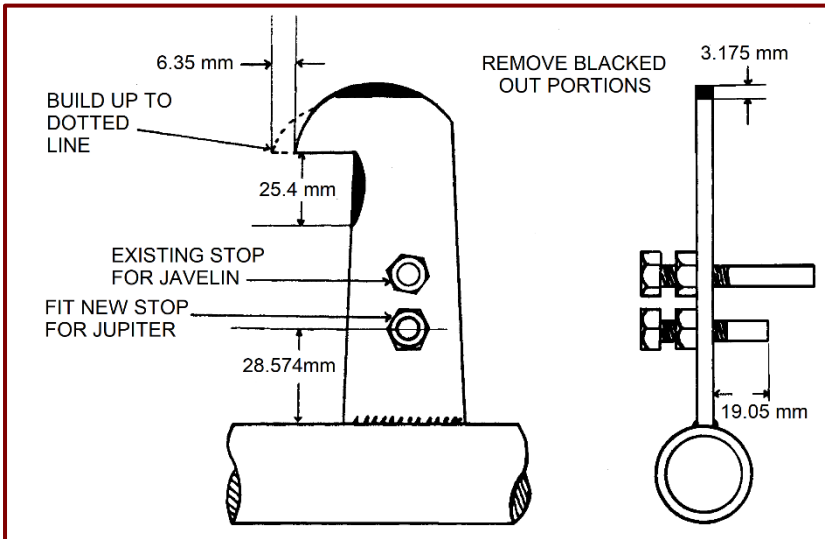

Figure 105. Frame Level Gauge.
3. Fit the frame level gauge (*Figure 105*, Page 104) and reset the torsion bar adjusters until a chassis height of 8 $\frac{1}{4}$ " (210 mm) is obtained immediately below the rear of the spring arm trunnion. *It should be noted that the light weight of the body does not give sufficient loading on the torsion bars and it is necessary that two persons be seated in the car when this adjustment is carried out.*